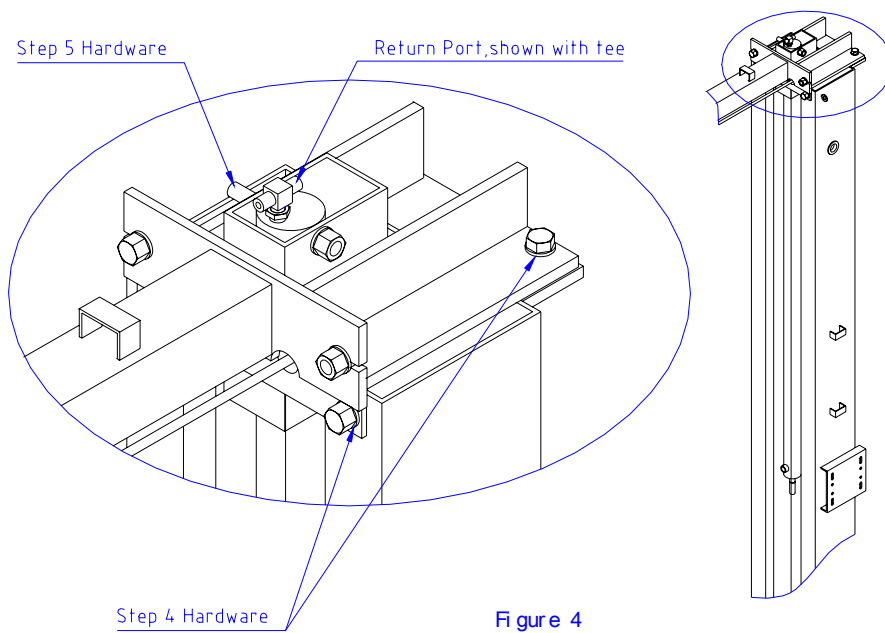

Figure 4
4. Attach the cylinder mount or uprights. Attach the cylinder mounts or uprights to the legs using four 1/2" X 1-3/4" bolts, washers and nuts as shown in figure 4.
- D. Install the cylinders to the uprights or cylinder mounts with **$\frac{1}{2}$ " x 4- $\frac{1}{2}$ " Grade 8 bolts, cylinder bushings (spacers), washers, and nyloc nuts, figure 4.** The port near the rod end of the cylinders should be positioned pointing to the leg's open side. High Rise cylinders must be attached to the alternate hole near the top of the upright.